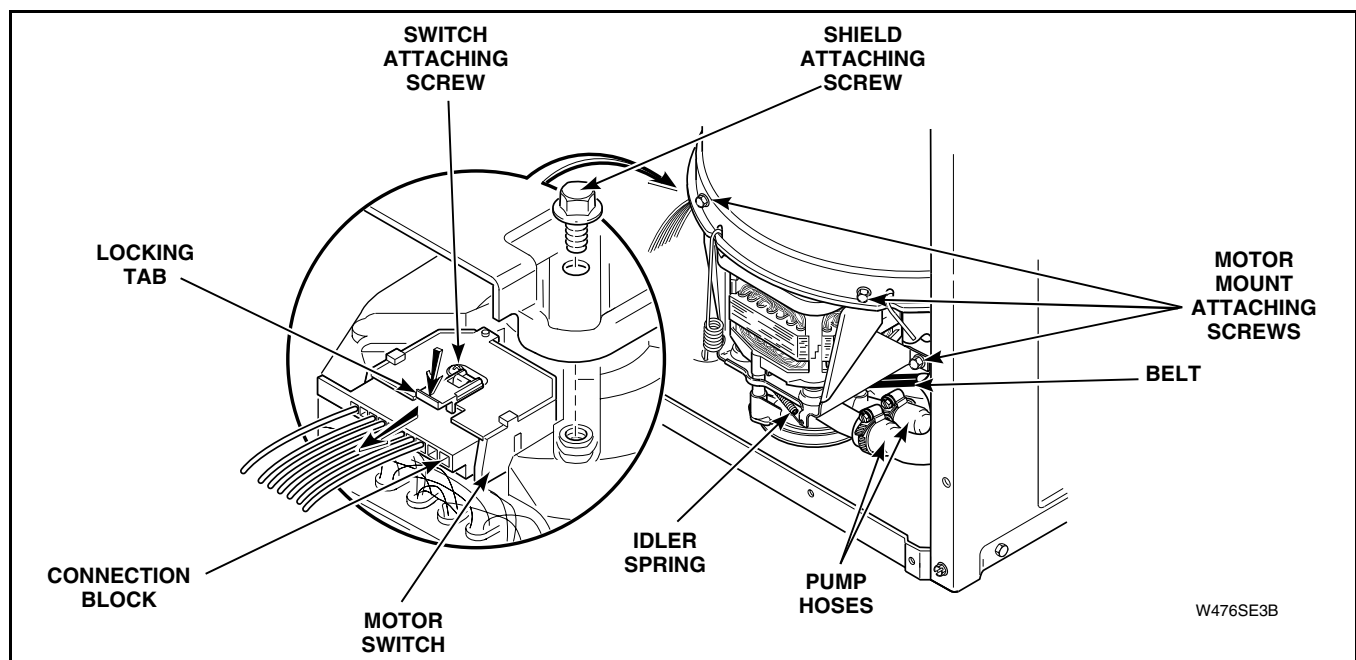

Figure 43
- d. Remove two screws holding motor shield to motor. Refer to *Figure 43* and remove shield.
- e. Disconnect wire harness from motor switch by pressing down on locking tab on top of connection block and at the same time pull connection block away from motor switch. Refer to *Figure 43*.
- f. Remove screw holding motor switch to motor. Refer to *Figure 43*. Then remove switch.
- Loosen hose clamps and remove hoses from pump assembly. Refer to *Figure 43*.
- Unhook idler spring from idler lever. Refer to *Figure 43*.
- Reach in and around right side of motor and run belt off right side of large drive pulley. Refer to *Figure 43*.
- Disconnect wire harness from motor switch by pressing down on locking tab on top of connection block and at the same time pull connection block away from motor switch. Refer to *Figure 43*.
- Remove four screws holding motor mounting bracket to lower flange of outer tub and to weldment assembly. Refer to *Figure 43*. Then remove complete assembly out of washer.